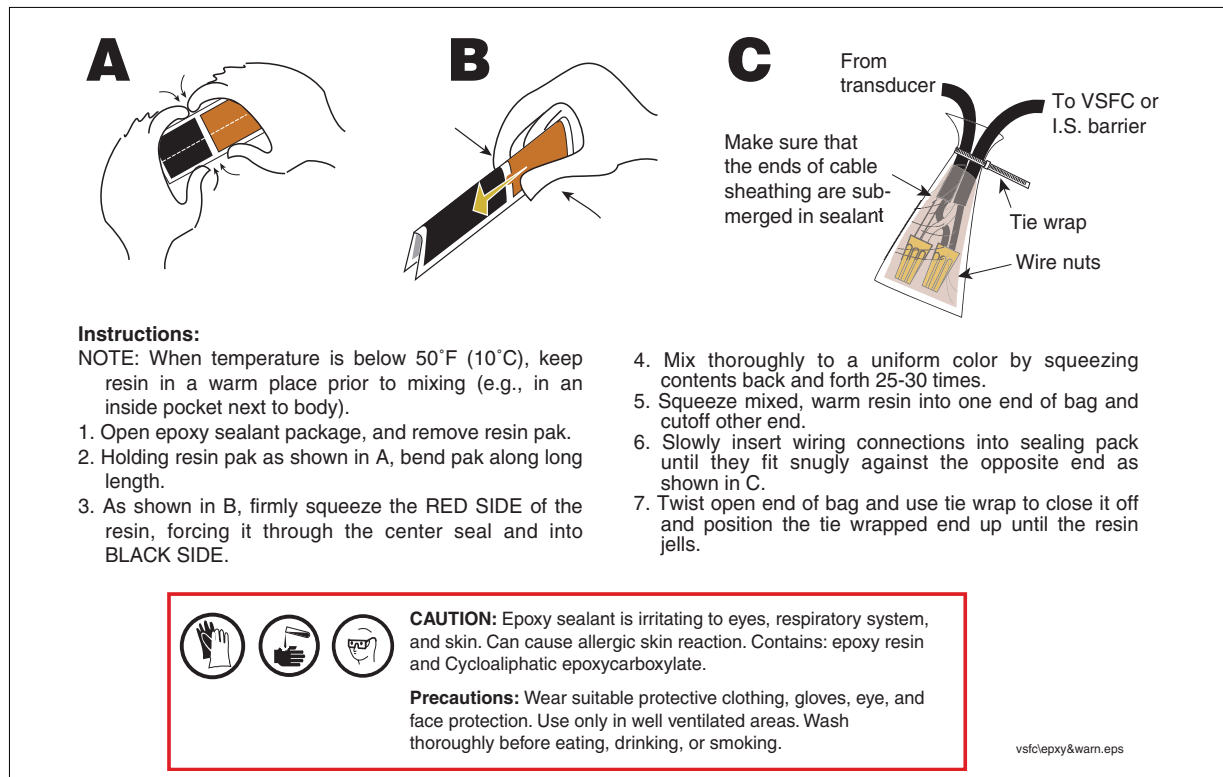
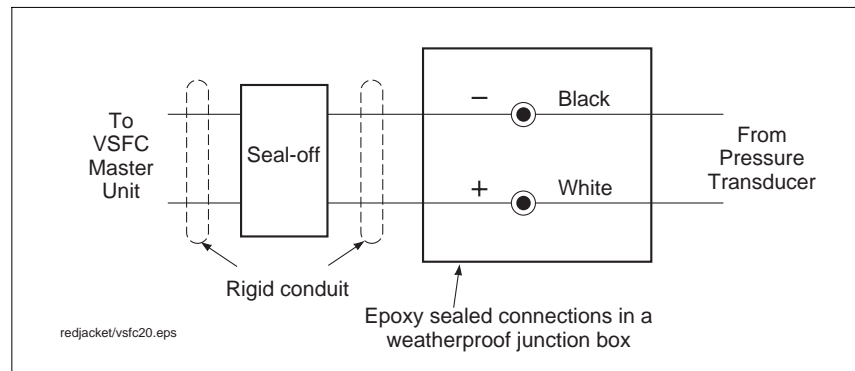

Figure 22. Epoxy sealing field wiring
Figure 23. Field wiring Pressure Transducer
11. Seal I.S. Barrier to Pressure Transducer wire nuts with epoxy sealant following the instructions in Figure 22.
3. In the weatherproof junction box, connect the Pressure Transducer cable to the cable from the VSFC Master Unit using wire nuts as shown in Figure 23 and epoxy seal connections as shown in Figure 22.